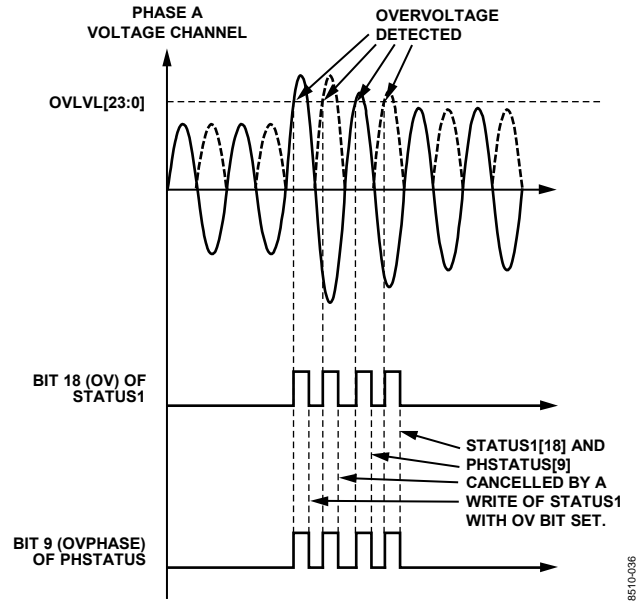

Figure 50. Overvoltage Detection
The ADE7854/ADE7858/ADE7868/ADE7878 detect when the instantaneous absolute value measured on the voltage and current channels becomes greater than the thresholds set in the OVLVL and OILVL 24-bit unsigned registers. If Bit 18 (OV) in the MASK1 register is set, the $\overline{\text{IRQ1}}$ interrupt pin is driven low in case of an overvoltage event. There are two status flags set when the $\overline{\text{IRQ1}}$ interrupt pin is driven low: Bit 18 (OV) in the STATUS1 register and one of Bits[11:9] (OVPHASE[2:0]) in the PHSTATUS register to identify the phase that generated the overvoltage. The Status Bit 18 (OV) in the STATUS1 register and all Bits[11:9] (OVPHASE[2:0]) in the PHSTATUS register are cleared, and the $\overline{\text{IRQ1}}$ pin is set to high by writing to the STATUS1 register with the status bit set to 1. Figure 50 presents overvoltage detection in Phase A voltage.